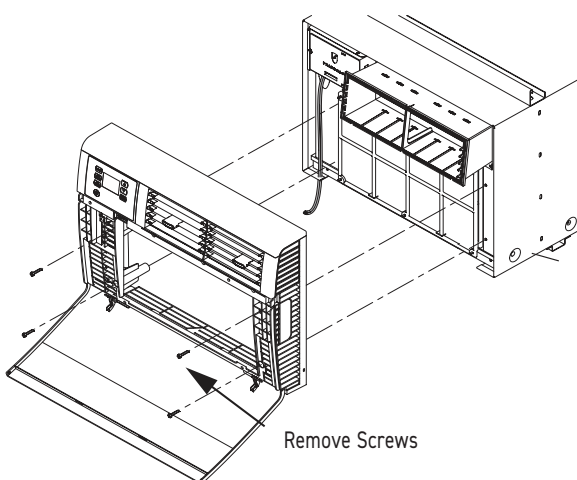

Figure C.6.2
- C. Remove 4 screws attaching decorative front cover. Save to reinstall later. (See figure C.6.2)